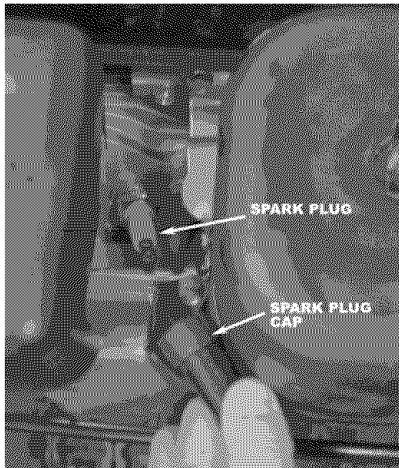

Figure 20- Removing the spark plug
2. Unscrew the spark plug from the engine using the spark plug wrench included with this product (see figure 20).